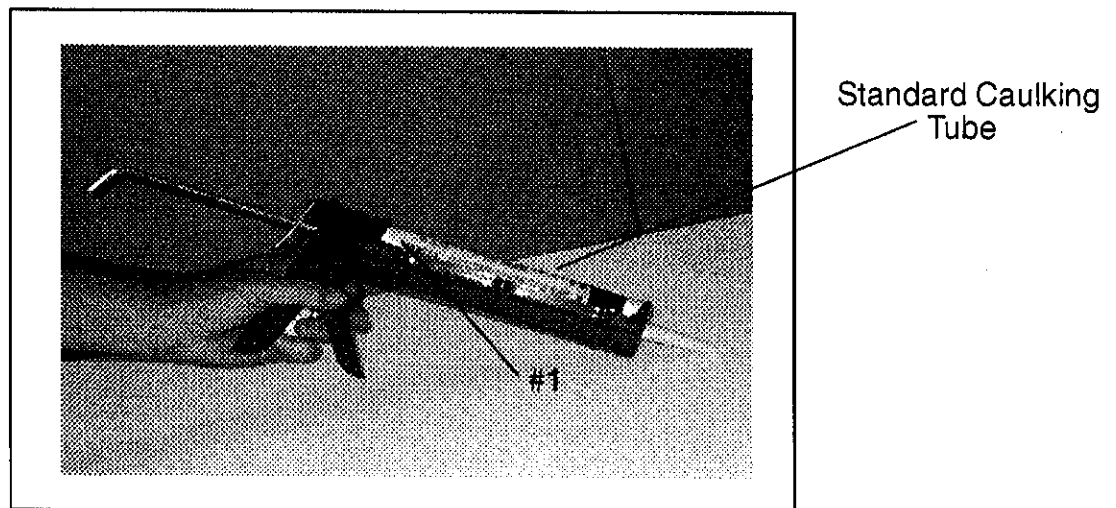

Figure 2
2. Place Standard Caulking Tube into Blue Caulking Gun (#1). See Figure 2